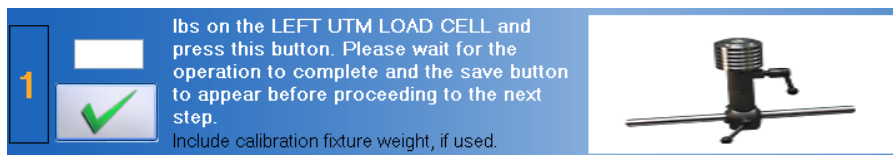

Figure 10-33. UTM - Verify the Weight
Step 2. Place the 10 lb calibration weight on the calibration fixture and type **10.7** (calibration fixture plus calibration weight) in the text field (Figure 10-33).
Step 3. Click on  to verify the weight (Figure 10-33).